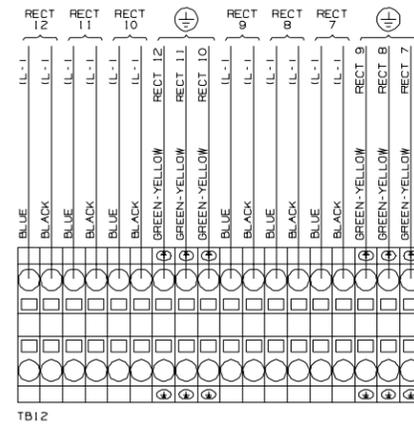

FIG. 27
ALL AC WIRING IS DONE IN THIS AC BOX. USE 10 GAUGE WIRE. FIVE (5) HOLES HAVE KNOCKOUTS FOR 3/4" CONDUIT. REMOVE APPROPRIATE NUMBER OF HEYCO PLUGS, STRIP EACH WIRE 1/2" AND INSERT INTO APPROPRIATE POSITION. REPLACE COVER WHEN AC WIRING IS COMPLETED. (SEE FIGURES 27, 28 & 29)